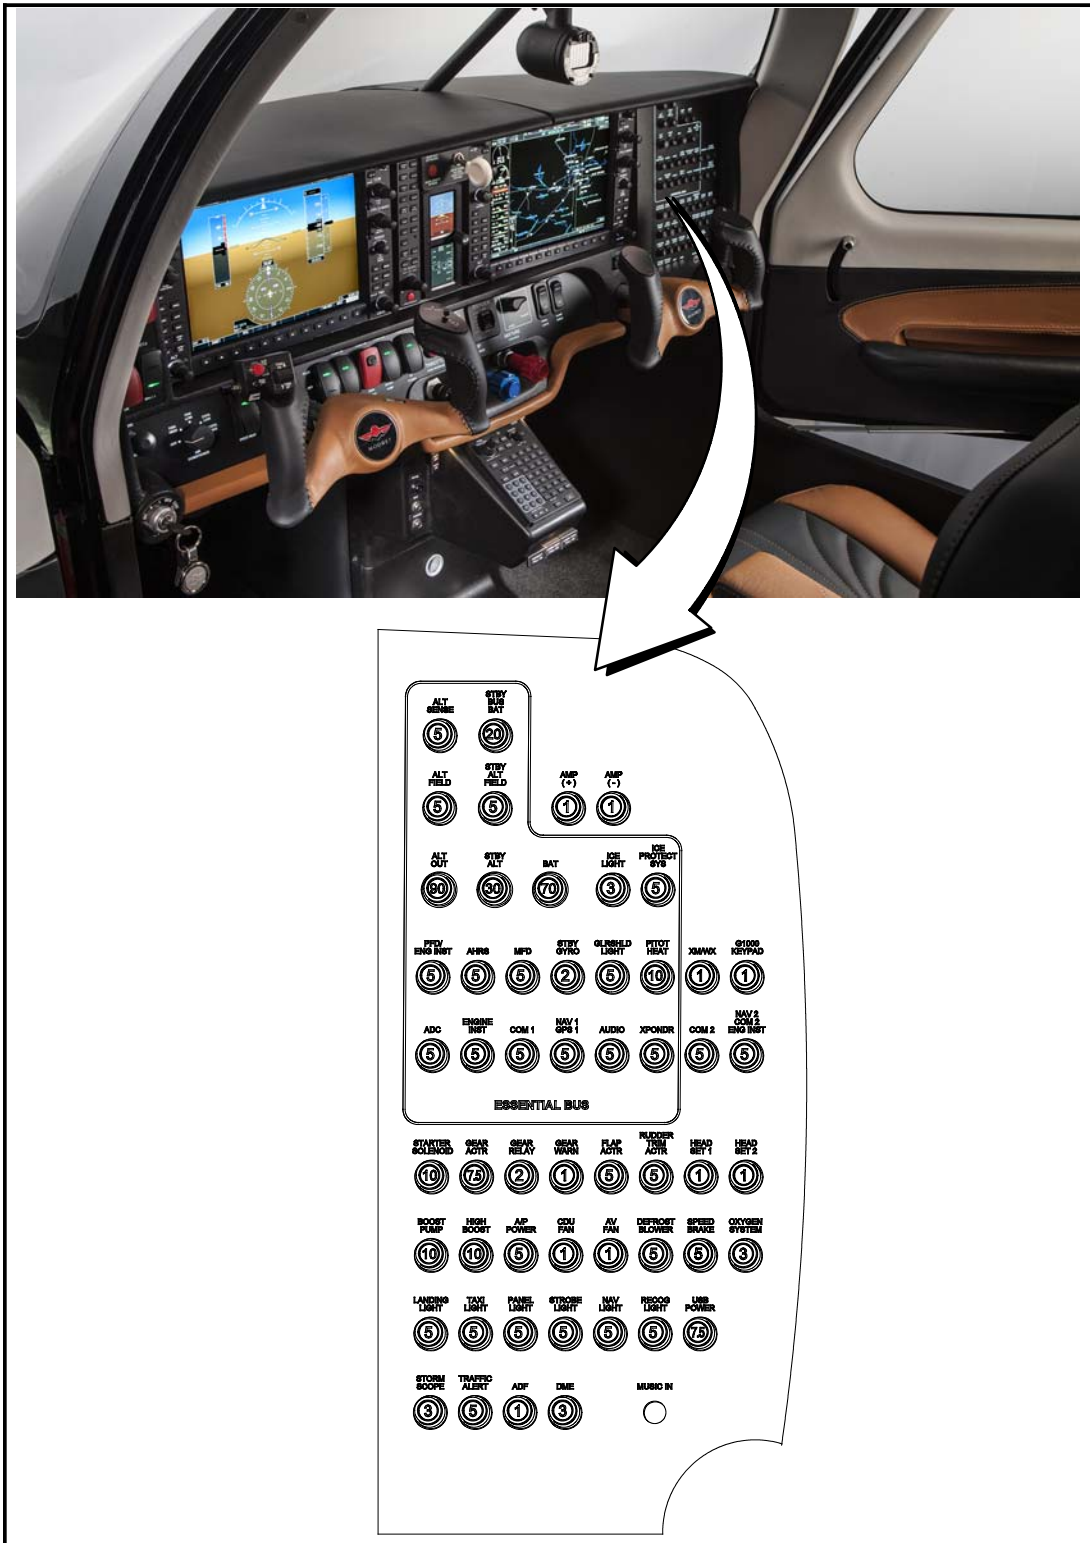

FIGURE 7-9 CIRCUIT BREAKER PANEL (TYPICAL)
**CIRCUIT BREAKER PANEL (See FIGURES 7-9)
Push-pull circuit breakers automatically break the electrical current flow if the system or unit receives current overload to prevent damage to electrical wiring. Figure 7-9 illustrates a typical main circuit breaker panel with its push-pull circuit breakers.